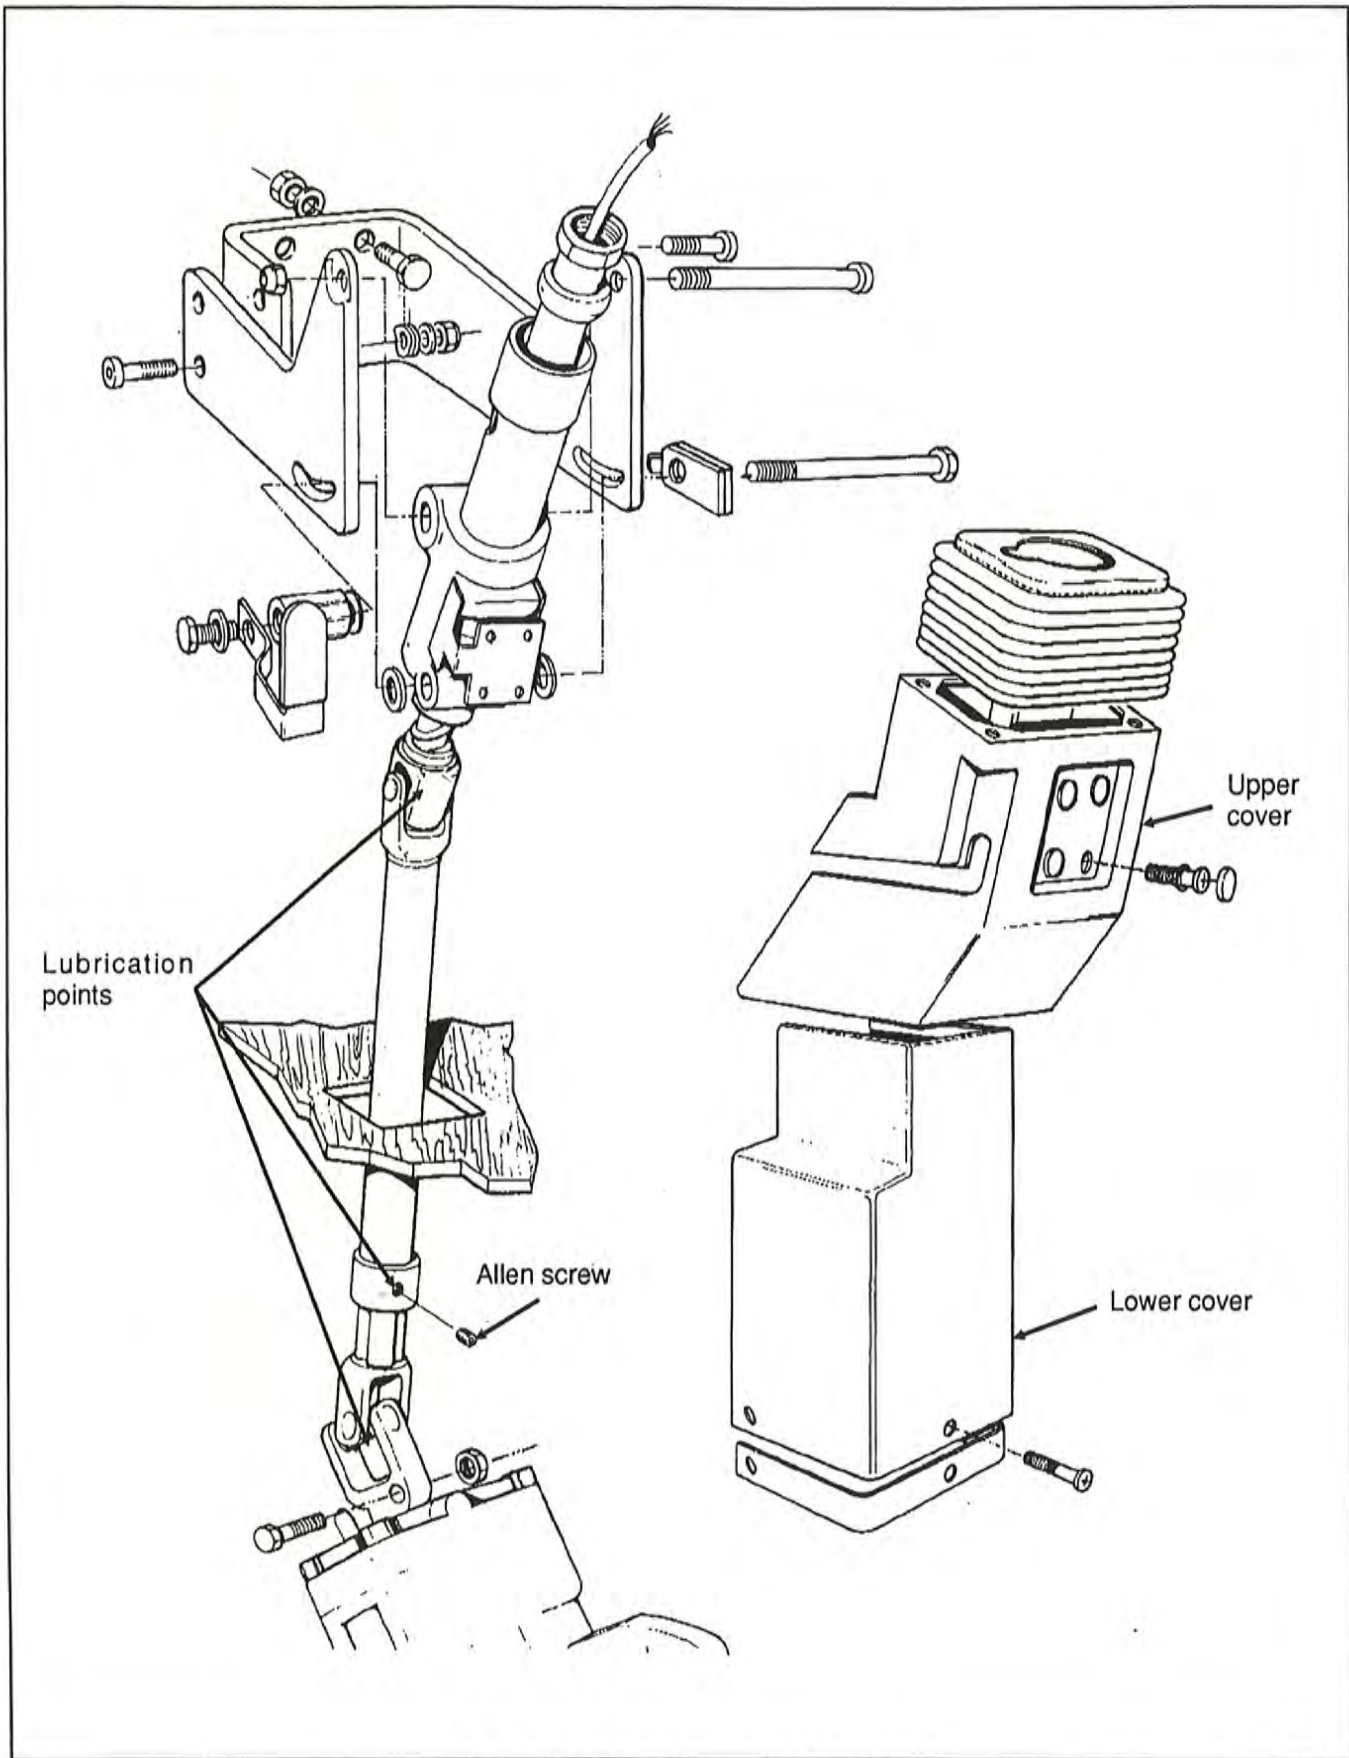

FIG. 5 - Steering column disassembled
To disassemble the steering column, refer to figure 5 as a guide. The steering column has 3 points of lubrication:
- c. Remove the "Allen" screw (see fig. 5). Install a grease fitting and lubricate as required.